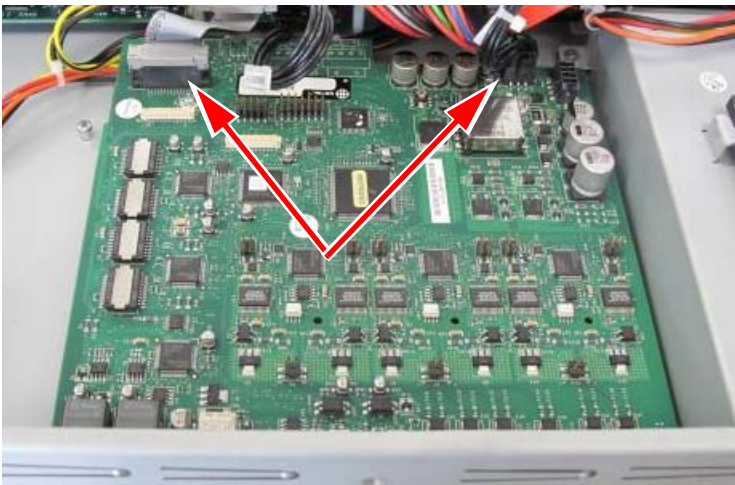

Figure 47: AMB - Disconnect Cables
3. Remove the AMB as follows referring to Figure 47: